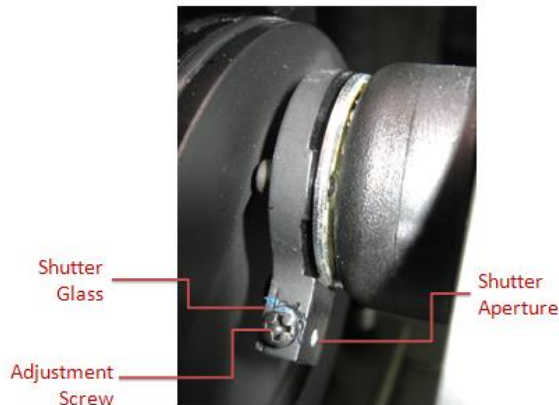

Figure 47 – Reference shutter
4. Clean the top of the reference shutter glass (Figure 47) with a lint free tissue or cotton bud and warm clean water, then leave to dry. Also clean the opposite side of the reference shutter glass by spraying CO Contact cleaner into the small shutter aperture to flush out any debris. Check that the reference shutter adjustment screw in the side of the shutter plate is not loose.